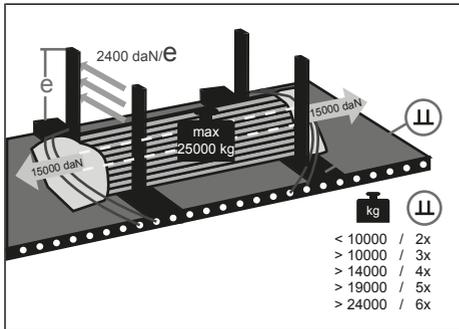

Fig. 8-10: Multi Fix system
- ▶ Position the steel pipes on the footing beam between the vertical support beams (see "Fig. 8-10: Multi Fix system", pg. 71).
- ▶ Install the safety net at the ends of the steel pipe (see "Fig. 8-10: Multi Fix system", pg. 71).